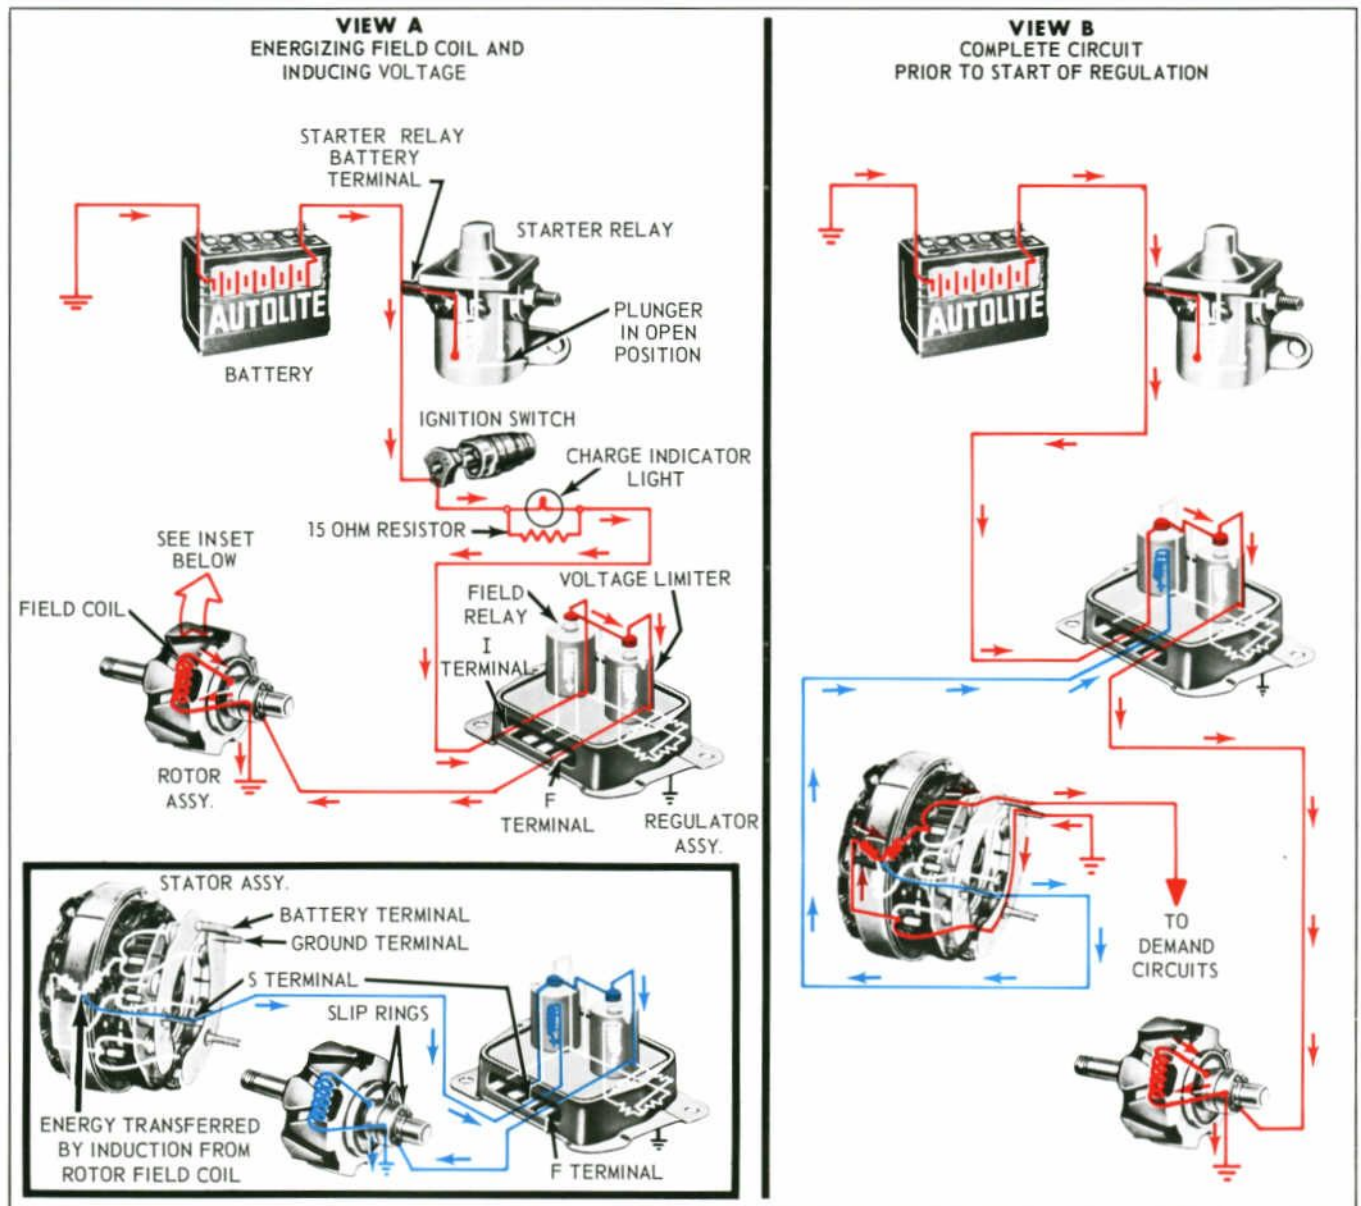

FIGURE 15. ENERGIZING THE FIELD (INDICATOR LIGHT IN CIRCUIT)
Beginning with Figure 15, we use circuit diagrams to illustrate certain current flow conditions at a given instant. You will notice that the component parts of the circuit are photographic reproductions of the actual parts. Standard symbols for the internal circuits of these parts are superimposed on the reproduction. The external portions of the circuit are also standard symbols for wiring connections between terminal locations.
Figure 15 illustrates two basic paths current will follow in a charging system equipped with a charge indicator light. Following the arrows, View A traces the
Figure 15, View B illustrates the path followed by the current when the stator windings are being energized sufficiently by the field to produce a normal output. When this takes place the field relay contact points close allowing current to flow from the battery terminal of the starter relay through the battery terminal (A) of the regulator instead of through the ignition switch and indicator light. The balance of the path through the regulator is the same if voltage has not built up to the point where the regulation has started.